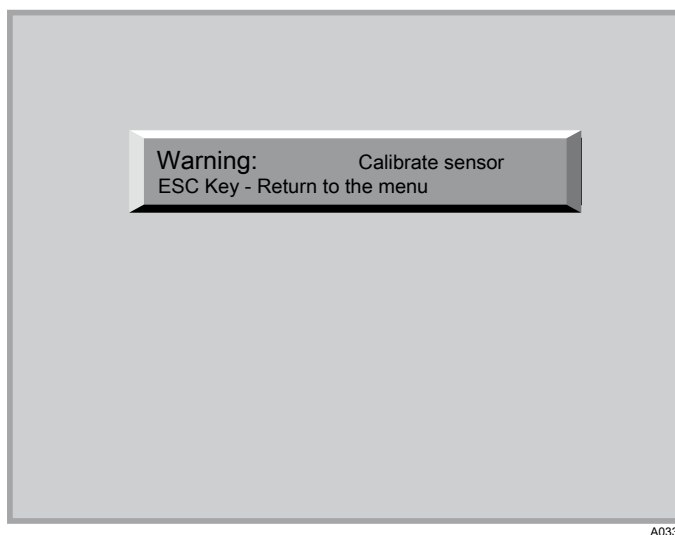

Fig. 30: Press the ESC button
3. ➤ Now you must re-calibrate the measured variable *'chlorine free'*, see Fig. 30